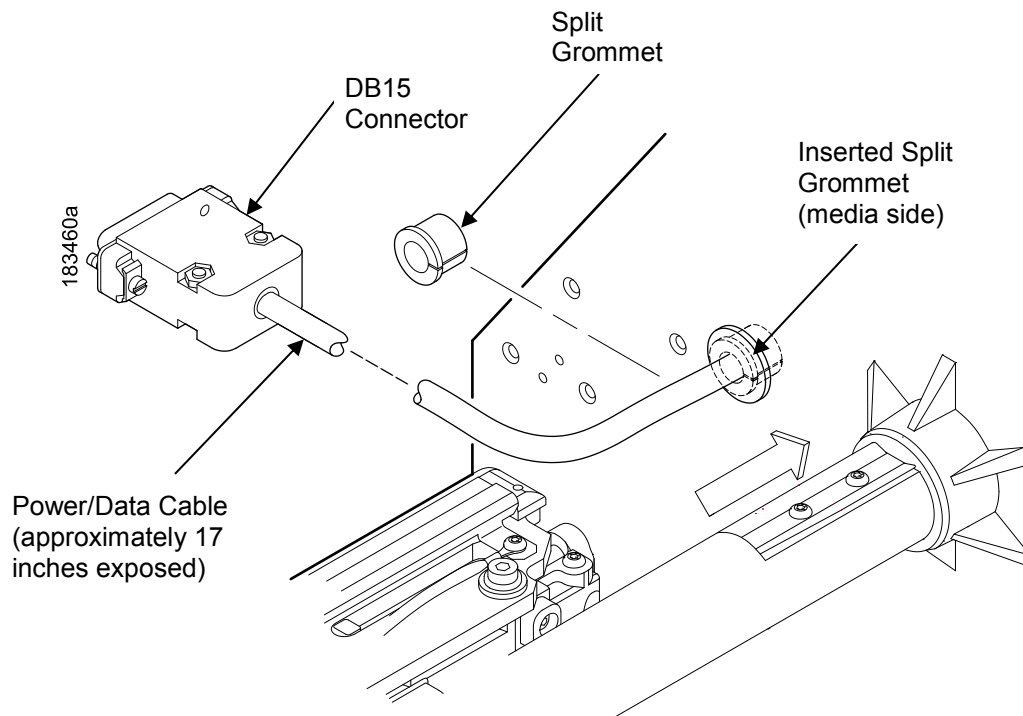

Figure 15 Adding the Grommet to the Power/Data Cable (T8)
13. On the media side of the printer, slide the split grommet onto the power/data cable and insert it into the frame opening. (Figure 15)